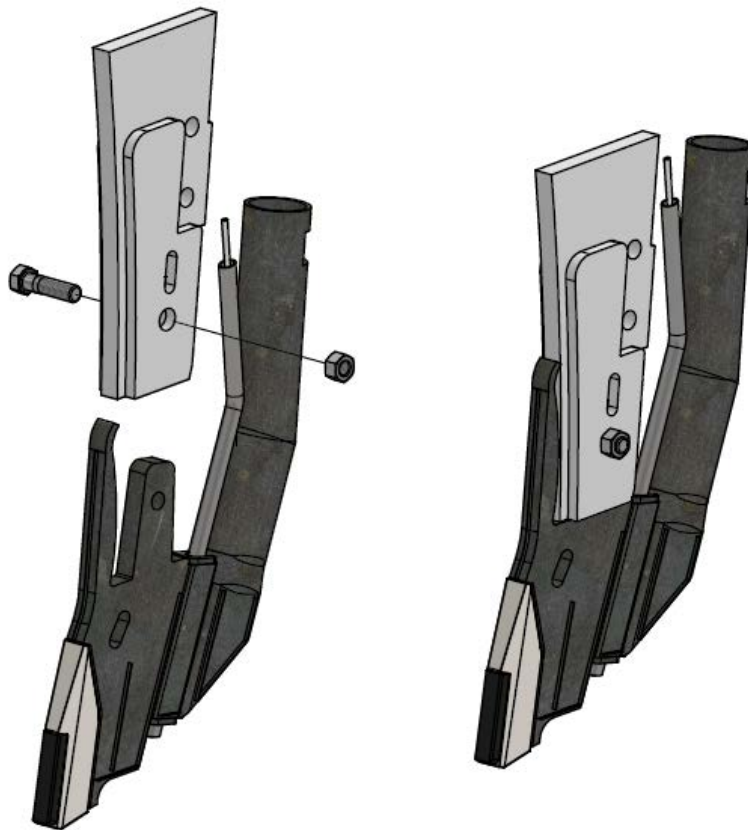

Figure 3: Mount MaxQuip fertilizer knife
- 2) Insert the hex head bolt as shown in Figure 3